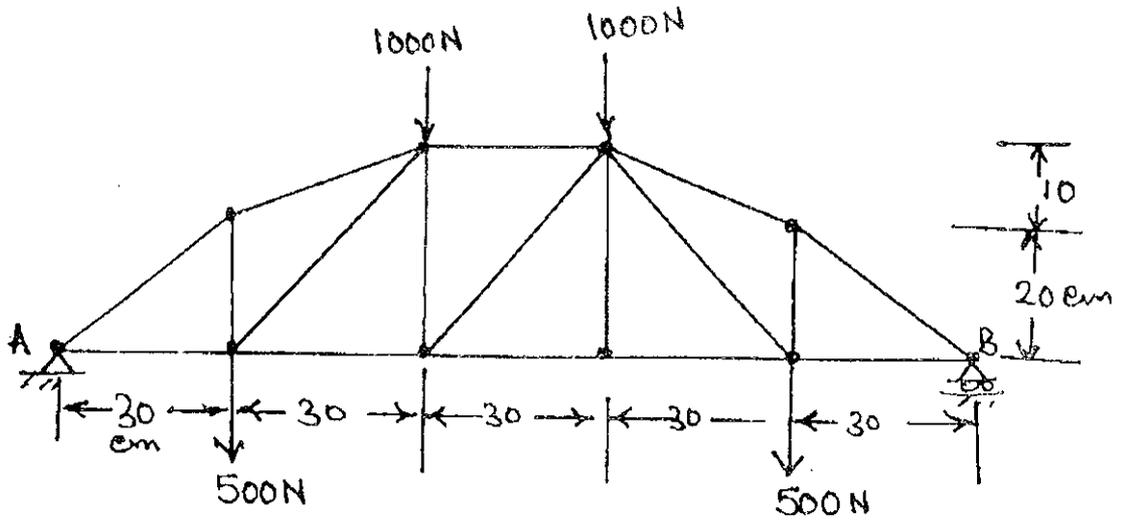

Fig. 1
11. (a) Find the forces in the members of the truss shown in the Fig. 1 by any one method.